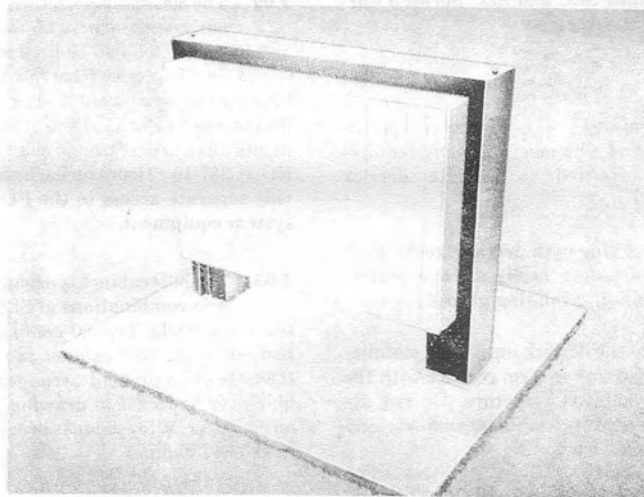

Fig. 1—80-Type Cabinet
1.01 This practice covers the installation of the 80-type cabinets (Fig. 1). The 80B cabinet is intended for use as an FDI (feeder distribution inter-